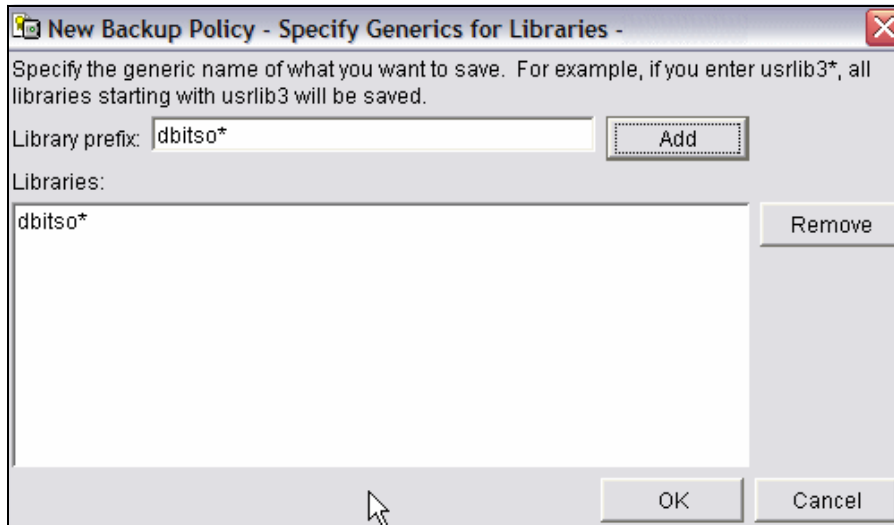

Figure 7-20 Customize user data
7. Finally, in the window shown in Figure 7-20, add the libraries you want to back up. Click **Add** and input the value DBITS0\*, then click **OK**.